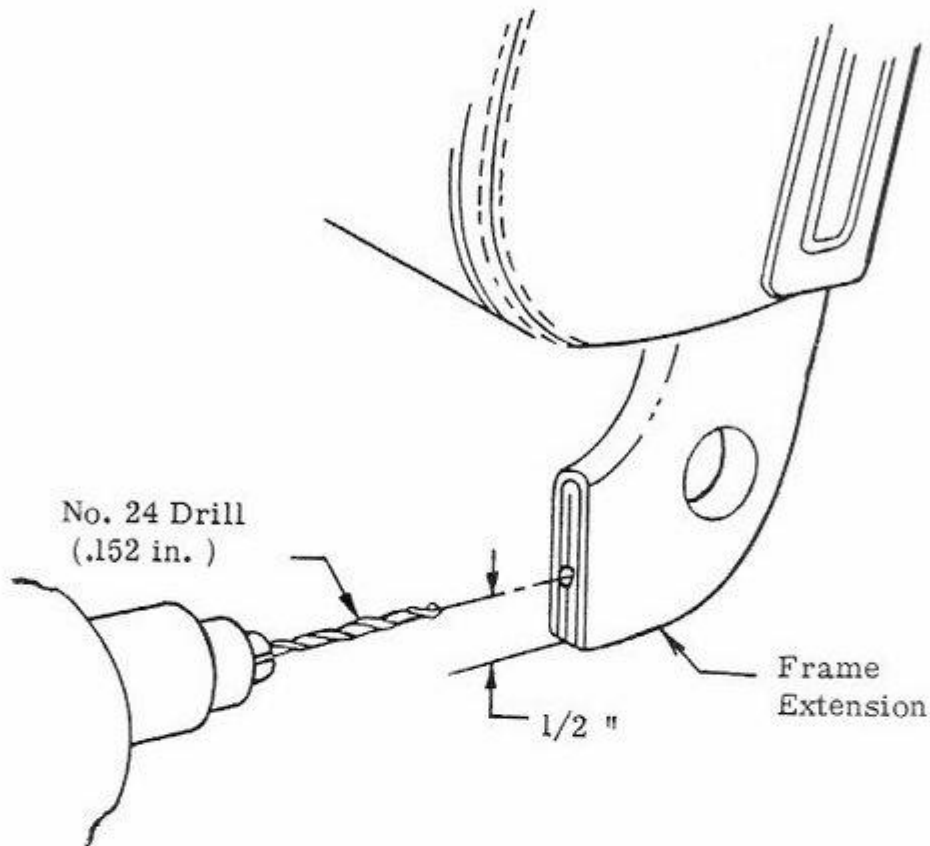

Figure 2
- (1) Remove the seat back from the cushion.
- (2) Drill a hole with a No. 24 drill (.152 inch diameter) in each seat back frame extension 1/2 inch from the bottom edge of the extension as shown in Figure 2.
- (3) Install a 8-15 x 5/8 inch self-tapping oval head screw in each hole.